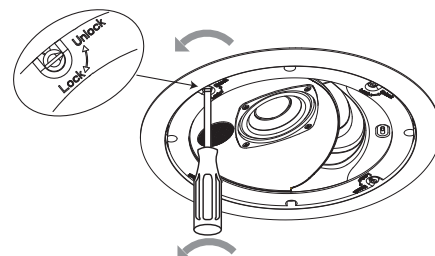

Figure 15
9. To aim the Midrange/Tweeter Acoustic Output to the desired area, first rotate the four flat head screws to the unlock position. Then grasp and rotate the Midrange/Tweeter Acoustic Reflector being careful not to damage the Loudspeaker Drivers. Then re-lock the four flat head screws to secure the new position. Refer to figures 15 and 16.